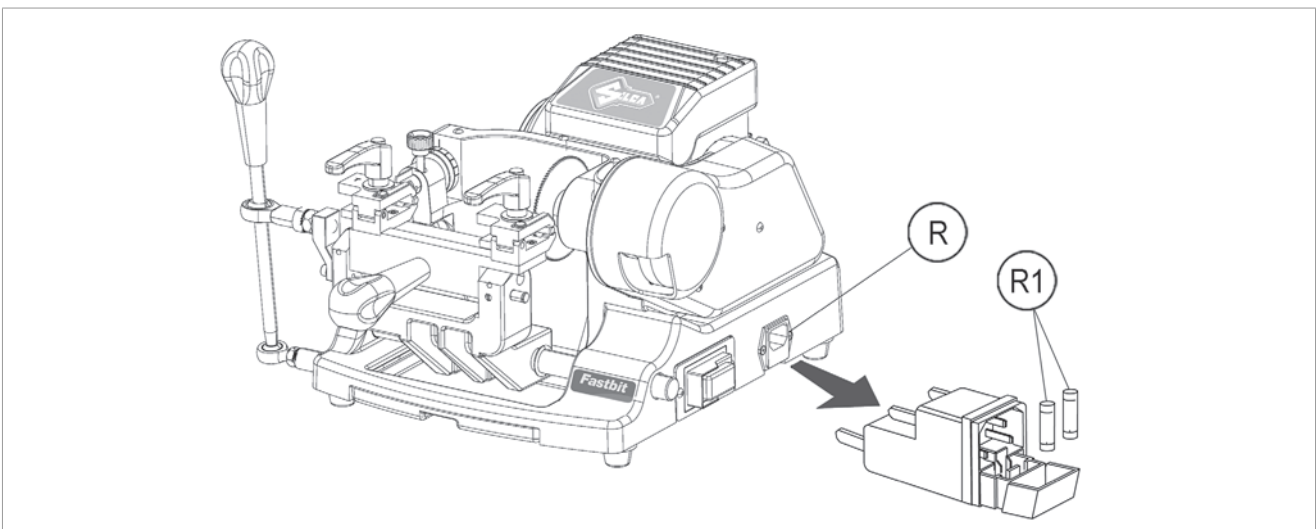

Fig. 38
- 1) Remove the fuses box from the key-cutting machine socket (R) (Fig. 38).